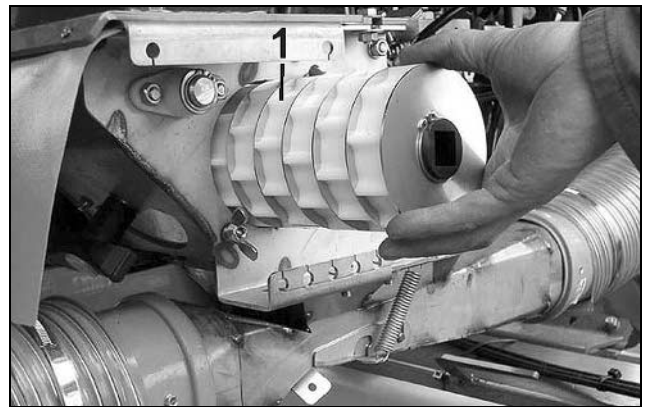

Fig. 18
- Medium metering rollers (option, Fig. 18/1) for medium size seeds and medium seed rates